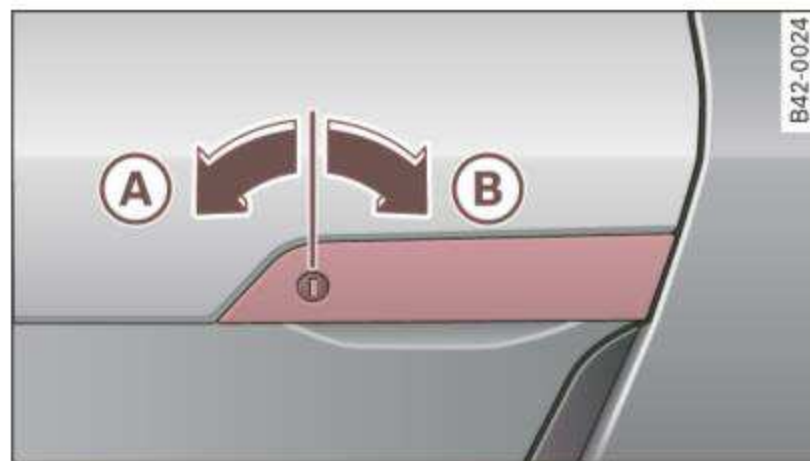

Fig. 32 Key turns for opening and closing
- Turn the key *one time* to position (A) to unlock the driver's door ⇒ fig. 32.
- Turn and hold the key in the lock position (B) ⇒ fig. 32 until the windows are completely closed ⇒ ⚠.